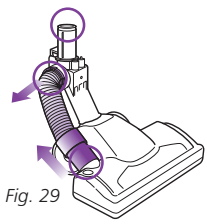

Fig. 29
- Detach the hose on the motorized floor brush at the top by squeezing the tabs together and pulling out, and at the bottom by pulling out the connector. Inspect inside the 3 holes. (Fig. 29)